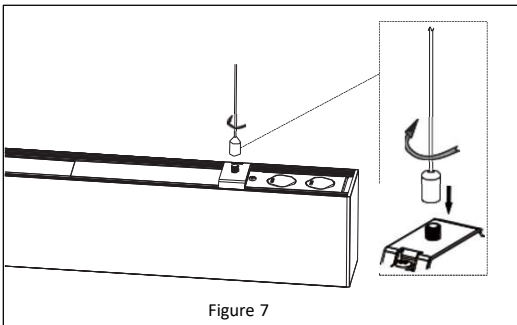

Figure 7
5. Secure the fixture to the Sling Assy. **See Figure 7.**